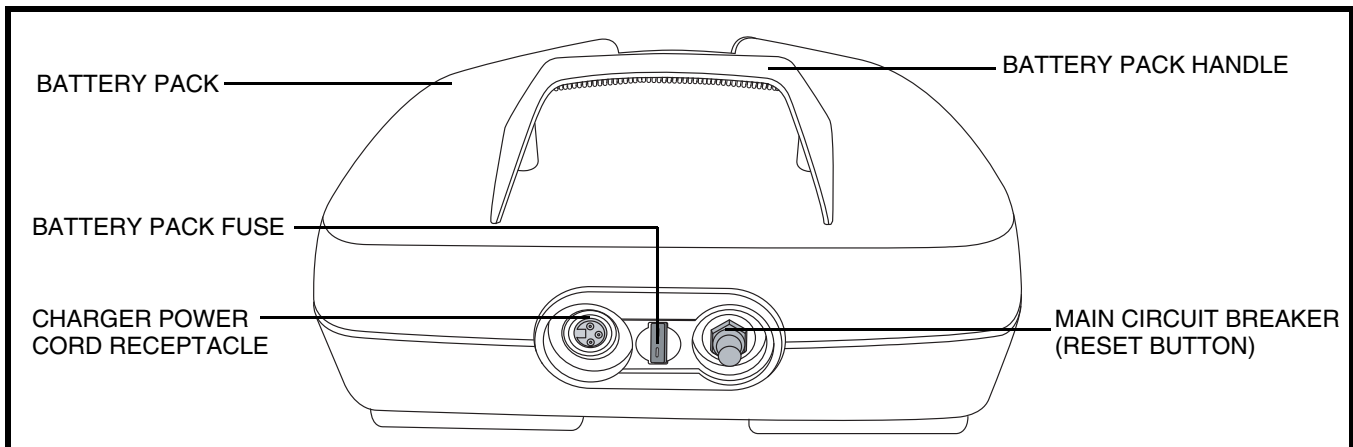

Figure 7. Battery Pack (12 Ah Pack Shown)
Your Travel Scooter is equipped with an innovative, easy-to-remove battery pack. A handle on the top of the battery pack makes it easy to lift the pack off of the Travel Scooter with one hand. The battery pack contains two rechargeable batteries (standard 12 Ah or optional 18 Ah), the charger power cord receptacle, the main circuit breaker (reset button), and the battery pack fuse. See **figure 7**.
When the voltage in your Travel Scooter's batteries becomes low or the Travel Scooter is heavily strained because of excessive loads or steep inclines, the main circuit breaker may trip to protect the motor and electronics from damage. See **figure 7**.
- Ensure that the fuse on the battery pack is in working condition. See figure 7.